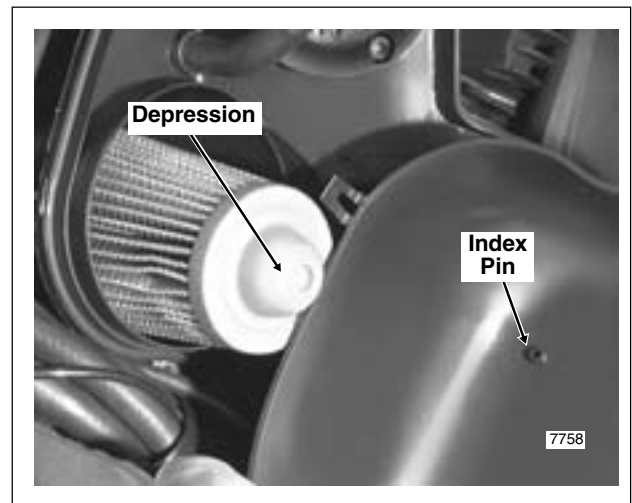

Figure 1-38. Install Air Box Cover
10. Taking note of index pin on inboard side of cover and small depression at tip of cone, position cover onto air box so that pin engages depression. See Figure 1-38.